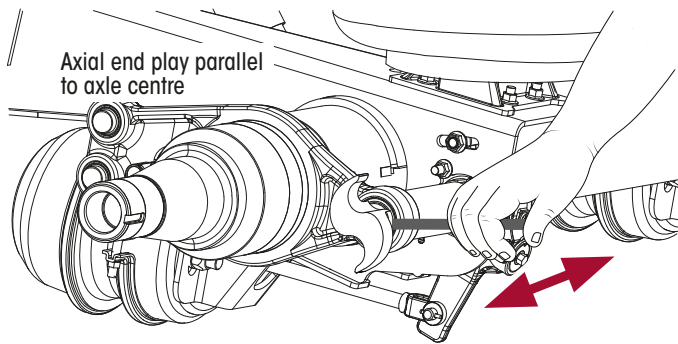

Figure 28: Axial (End) Play 1.5 mm Maximum
10. Check S-cam axial (end) play. Check S-cam axial (end) play. End play should be between 0.1 and 1.6 mm (0.005 to 0.060"). If end play is out of specification, correct it by removing the slack adjuster retaining ring (circlip). Add or subtract washers, as necessary. Refer Figure 28.
11. Check S-cam radial play. Replace the bushes and seals if it is more than 1.5 mm (0.060"). Check condition of S-cam bearing journal and replace if necessary. Refer Figure 28.